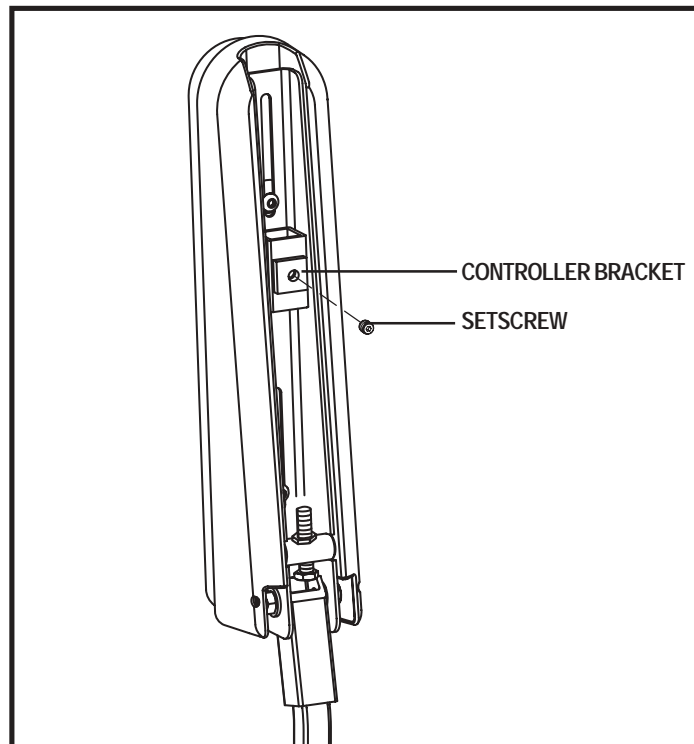

Figure 17. Underside of Armrest
2. Loosen the setscrew on the controller bracket. See figure 17.
6. Loosen the setscrew on the controller bracket. See figure 17.